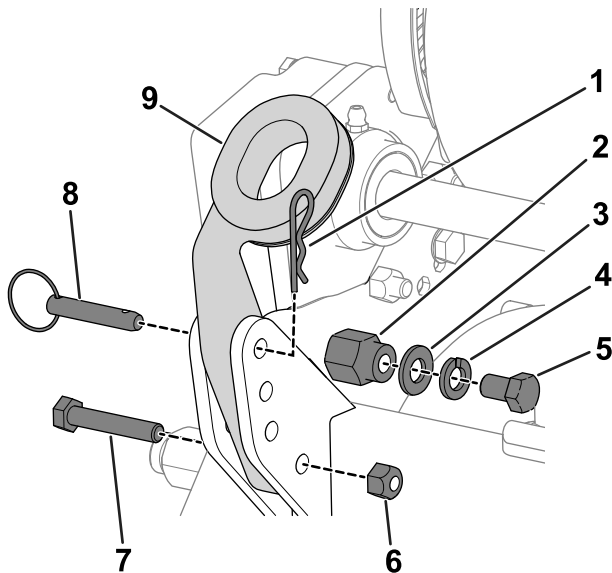

Figure 3
1. Remove the bolts (5/16 inch), locknuts, ring pins, and hairpin cotters that secure the bottom of the handle arms to each side of the machine (Figure 3).
2. Remove the bolts (3/8 inch), washers, and lock washers from the mounting pins on each side of the machine (Figure 3).
3. Insert the handle ends through the holes in the handle arms and align the holes with the mounting pins (Figure 3).
6. Use the bolts (5/16 inch), locknuts, hairpin cotters, and ring pins that you previously removed to secure the handle arms to the rear of the frame (Figure 3).